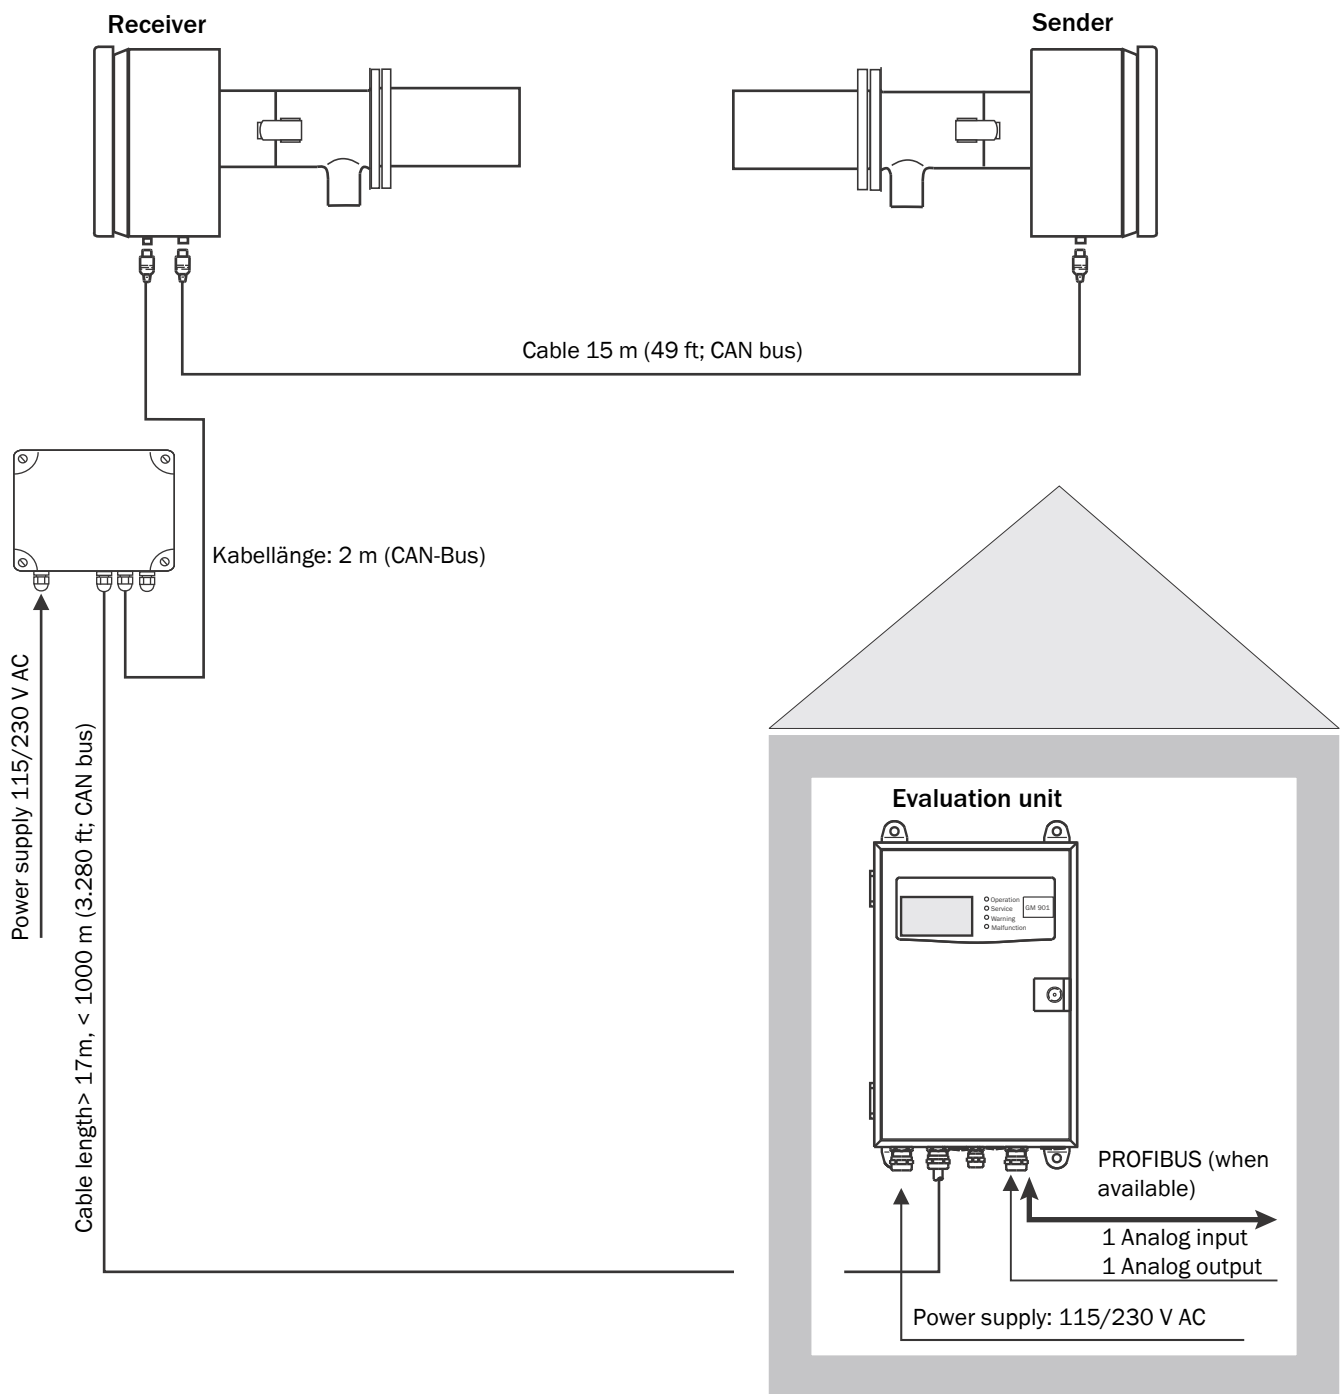

Fig. 20 Connection unit at distances of up to 1,000 m (3,281 ft)
- Connect system components according to *Fig. 20*